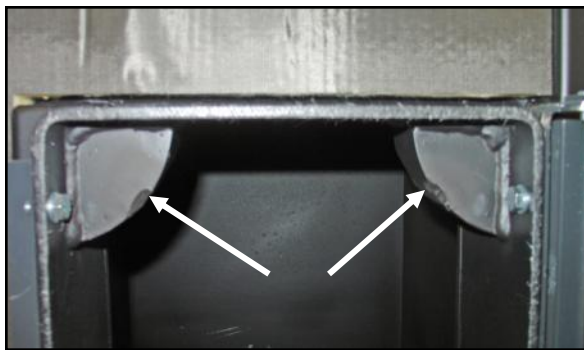

Fig. 4.8 Primary Air Ducts
2. Check the Primary Air duct holes (**Fig.4.8 & 4.9**) for unobstructed airflow.